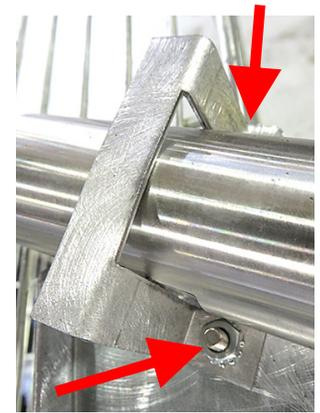

Figure 16
18. Lay the OQS sensor on its side and remove the nuts that securing the OQS sensor to the bracket (see Figure 16).